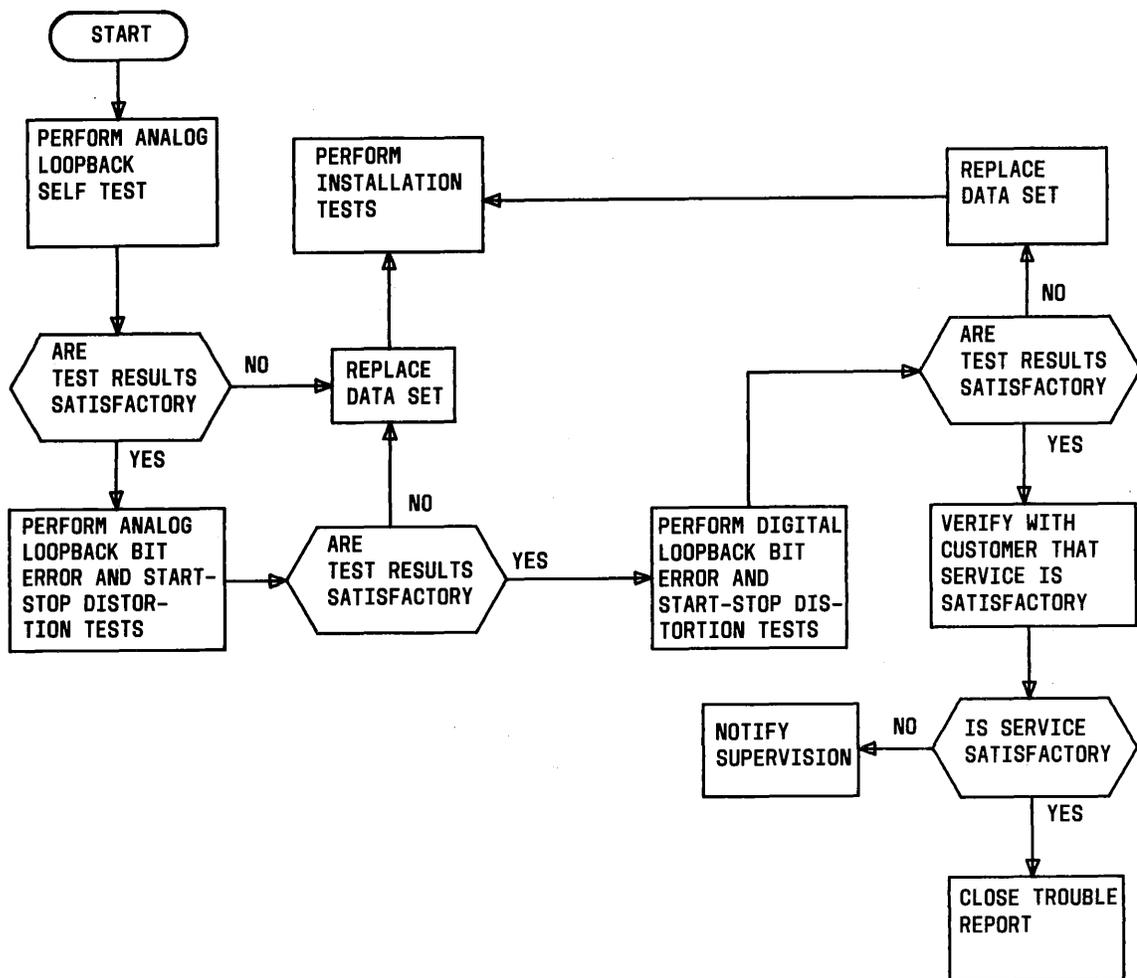

Fig. 4—Maintenance Test Sequence
3.04 Refer to Fig. 4 for the sequence in which tests are to be performed by the telco employee at the data station. If the data set is replaced, the defective data set should be tagged with a description of the trouble, carefully packed, and returned to a service center for repair. Verify that the replacement data set is equipped with the proper options before placing the data set in service.